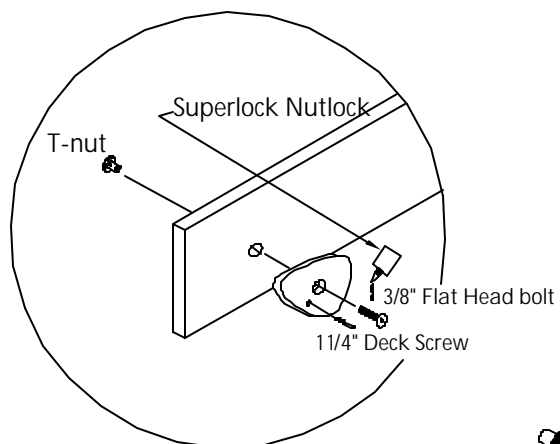

FIG. 15
Step 1: Gather (7) Rockwall Boards 'Y' and (2) Yellow grab handles.
Step 2: Apply (2) drops of Superlock Nutlock to ends of Rock bolts and attach rocks with 3/8" rock hardware by using provided Allen wrench. (See Fig. 15)